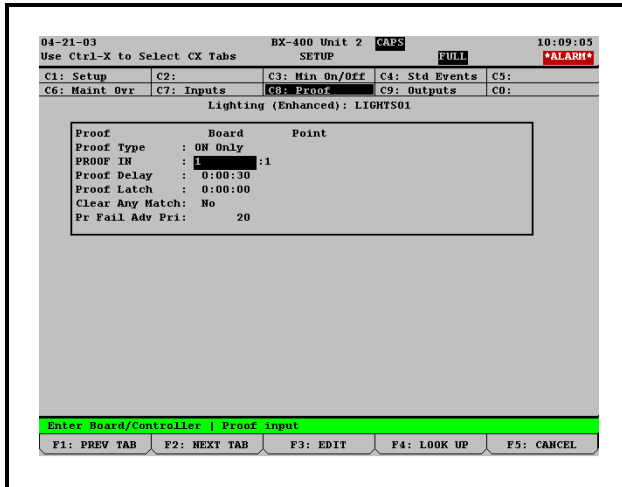

Figure 5-3 - Lighting Proof Setup Screen
3. Under the **C1: Setup** tab, set **Enable Proofing** to **Yes**. (**C8: Proof** tab becomes visible once you cursor across the tabs. See *Figure 5-3*.)